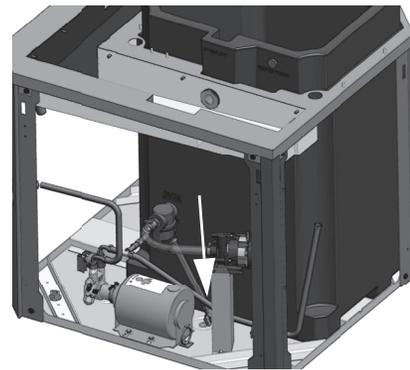

Figure 35.
1. Remove the side panel and locate the drain valve (see Figure 35.)